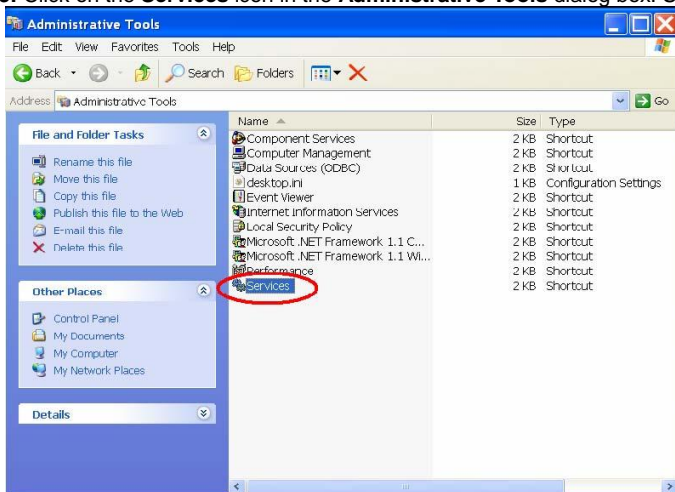

Figure A-16
**Step 3:** Click on the **Services** icon in the **Administrative Tools** dialog box. See Figure A-16.